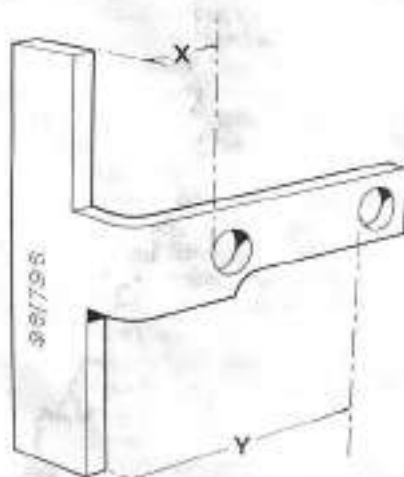
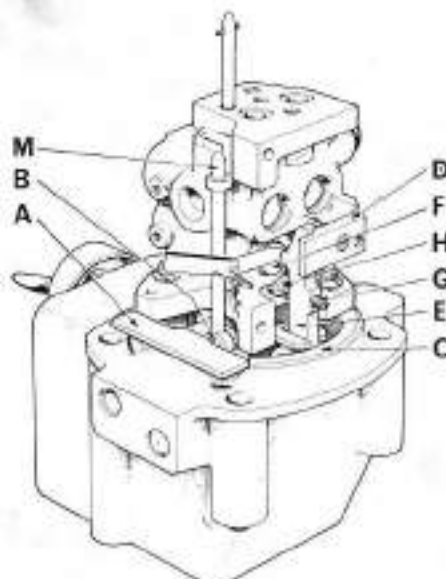
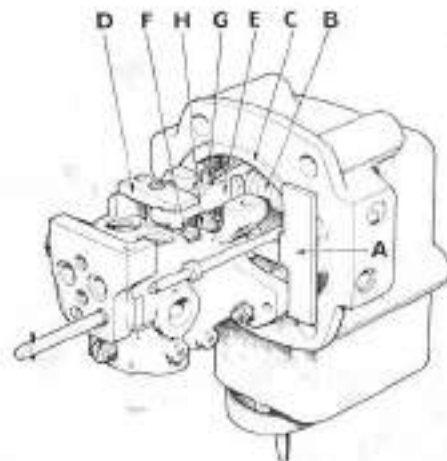

Fig. 284—Adjusting gage (David Brown part No. 961796) for hydraulic control mechanism. Dimension "X" is 0.437 inch; dimension "Y" is 1.580 inches.
Fig. 285—Using adjusting gage to check setting of abutment plate (D); refer to text for procedure.
Fig. 286—Using adjusting gage to check setting of traction control valve screw in rocker lever. Refer to text for procedure. Refer to Fig. 285 for legend.
After bolting control valve assembly to bracket, turn selector dial to T.C.U. position. Engage inner hole of adjusting gage (see Fig. 284) on rocker shaft pin (B-Fig. 285) and hold base of gage against boss on bracket as shown at A in Fig. 285. With abutment plate (D) tightly bolted in position, check clearance between rocker lever (E) and spool valve (F) with feeler gage. Clearance should be 0.001-0.003; if not, remove abutment plate and add or remove shims under plate as required to obtain proper clearance.
With selector dial at T.C.U. position, engage outer hole of adjusting gage (Fig. 285) on rocker shaft pin (B-Fig. 286) and hold base of gage against boss on bracket as shown in Fig. 286. Loosen locknut on traction control screw (G) in rocker lever (E), then turn screw in or out until it just contacts traction control valve (H), but does not compress spring. Turn screw one additional turn from where it just contacts valve. As point at which valve spring starts to compress is not easy to determine, adjustment should be done with assembly inverted and with a 0.002 inch thick feeler gage inserted between valve plunger and adjusting screw. When screw is turned in far enough to start holding feeler gage, withdraw gage and turn screw in farther as required.